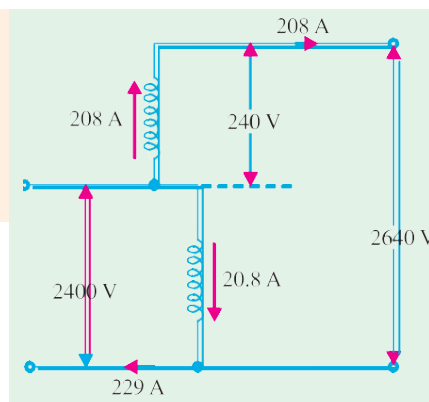

Fig. 32.67
**Solution.** With 50 kVA as the rating, the rated currents on the two sides are 20.8 A (2400-V side) and 208 A (240 - V side). With the required re-connection, the 2400-V winding will work as a common winding. As shown in Fig. 32.67, the winding common to input and output can carry 20.8 A, the output current can be 208 A with a voltage of 2640 V, which means that the output of this auto
This power of 500 kW is “*conductively*” transferred as is clear from the division of currents at the input node. Out of the total current of 229 A from the source, 208 A goes straight to the output. The remaining current of 20.8 A is through the “*common*” and “*inductive*” path, as marked in the Fig. 32.67.